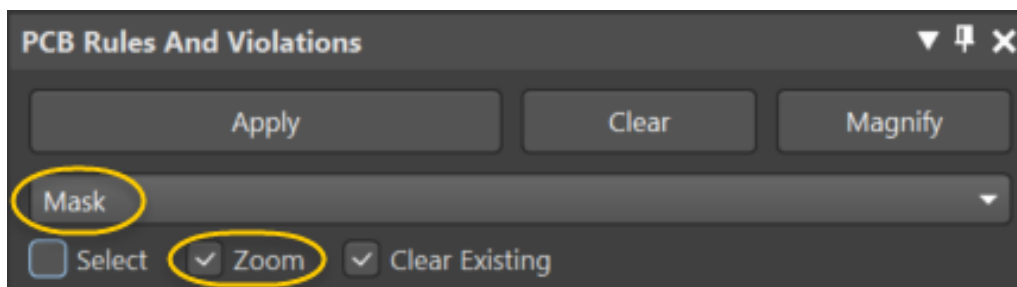

Figure 9. Mask control in the PCB Rules and Violations panel
22. We would like our view to be zoomed into the violation, as well as mask the rest of the PCB to improve the visibility of the violation. In the *PCB Rules and Violations* panel, change the highlight options from **Normal** to **Mask** and enable the **Zoom** option as shown in Figure 9.